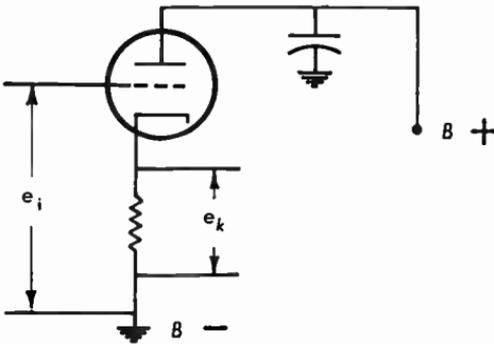

Fig. 11.40a Cathode follower, using triode tube.
11.40 In the cathode follower circuit of Figure 11.40a, $R_k = 1500$ ohms, $r_p = 10,000$ ohms, $\mu = 25$. Find the stage gain of the circuit.
11.41 Derive the general solution for the gain and the output impedance of the cathode follower circuit of Figure 11.40a.